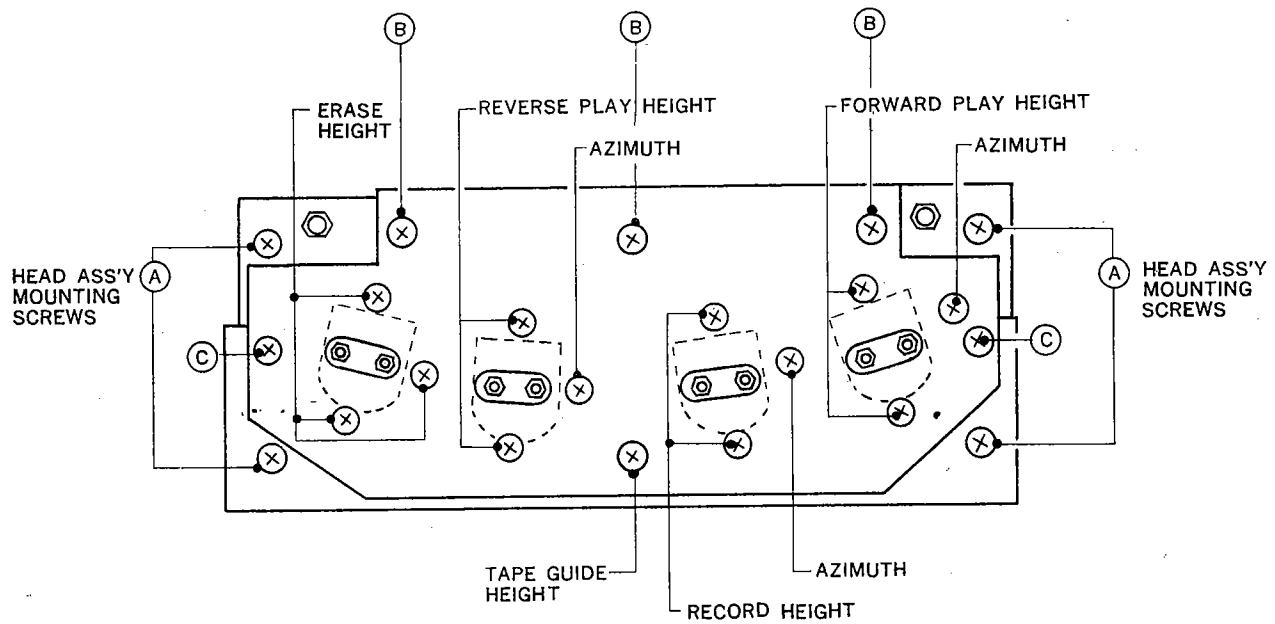

FIG. 5-1 HEAD ASS'Y (TOP VIEW)
2. Remove the head assembly by loosening the four screws marked Ⓐ in Figure 5-1.
3. Remove the head assembly top plate by removing the screws marked Ⓒ and Ⓓ in Figure 5-1 Gently separate the top plate from the rest of the assembly.
5. Play a 12 or 15 KHz tone and turn azimuth adjustment screw Figure 5-1 of the forward playback head until a maximum peak is obtained on the VTVM.
6. Depress the ◀ button and turn azimuth adjustment screw Figure 5-1 of the reverse playback head for maximum peak on the VTVM.
9. While recording a 15 KHz signal set the LINE input level control so the VTVM reads -15 to -20 db (-15 to -20 VU) below normal operating level. Adjust record head azimuth screw (Fig. 5-1) for maximum peak on the VTVM.